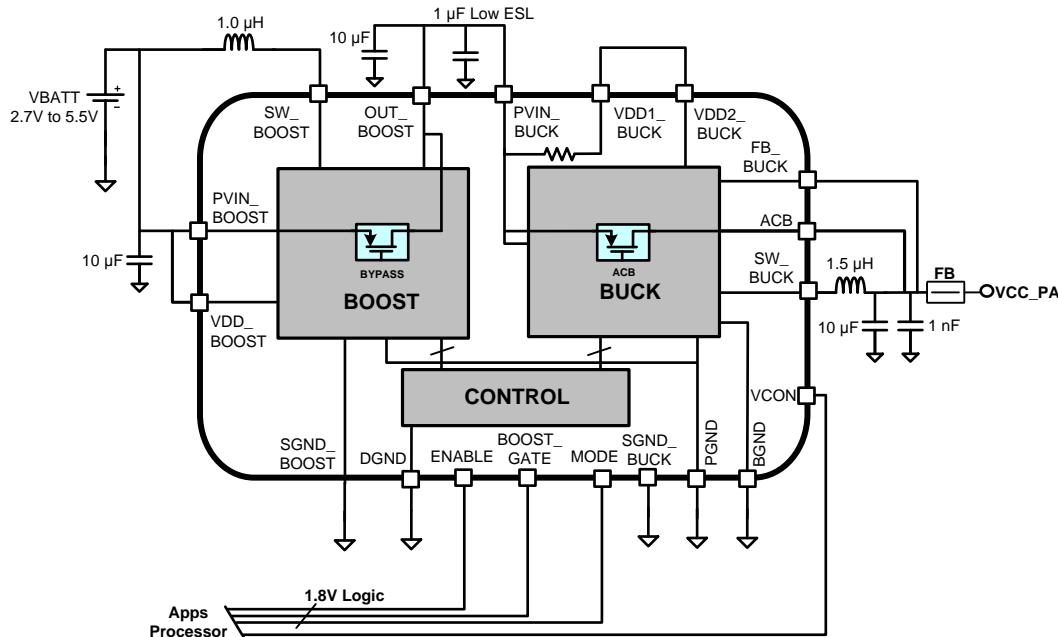

Figure 27. Typical Application: Boost-Buck
The LM3248 architecture is comprised of a step-up (boost) DC/DC switching converter followed by a step-down (buck) DC/DC switching converter. This cascaded boost-buck architecture allows the device to support output voltages that are either above or below the input battery voltage, while simultaneously providing excellent output transient and noise performance. See Figure 27 for more details. The LM3248 minimizes 3G/4G/4G-LTE Advanced current consumption in User Equipment (UE) transmit power distribution environments and, in addition, supports higher power 2G functionality.